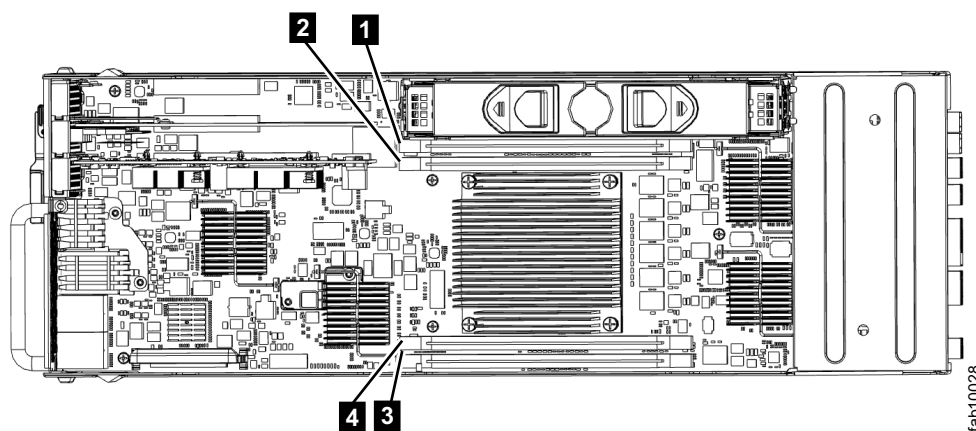

Figure 82. Installing a Storwize V7000 2076-524 node canister memory module
3. Locate the DIMM slot with the faulty DIMM. Slot 1 is next to the battery area. Slot 2 is next to the processor. The slots are marked **1**, **2**, **3**, **4** as shown in Figure 82 .
7. Gently place the DIMM in the slot, ensuring that the notches in the DIMM align with the shape of the slot, as shown in Figure 82.